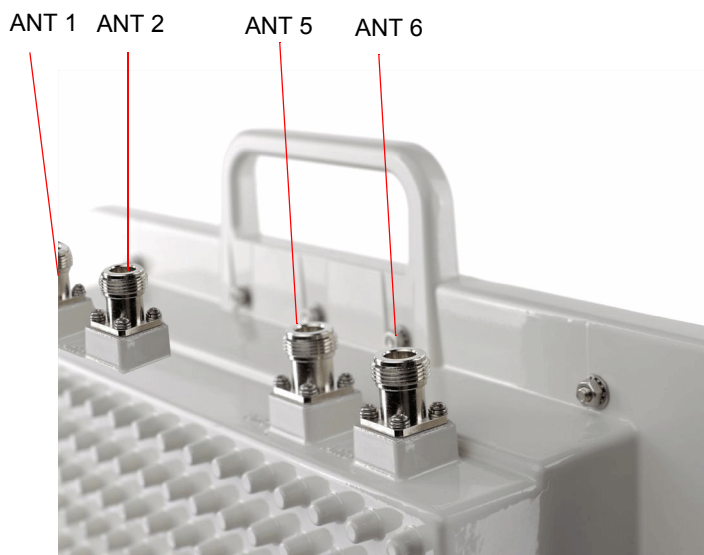

Figure 5: RF Connectors
- 1 Connect one end of the coaxial RF cable (LMR 400) to the RF connector labeled ANT 1 on the unit (see Figure 5).